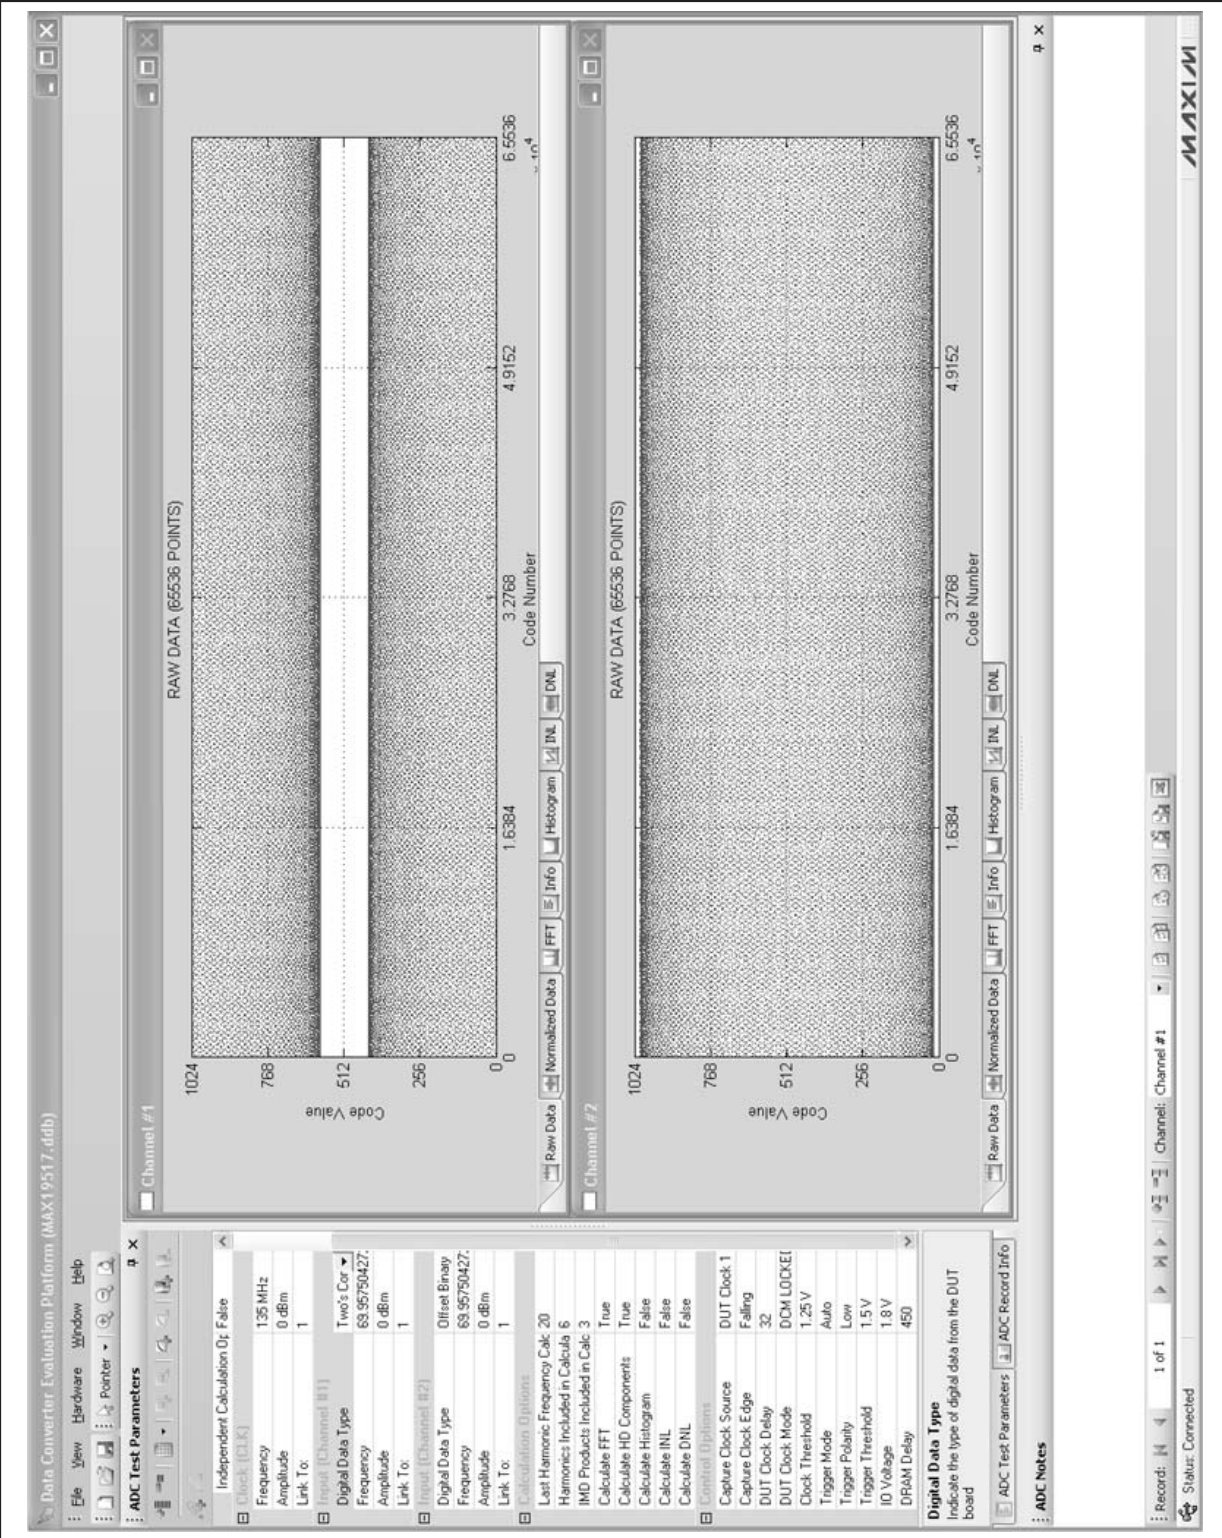
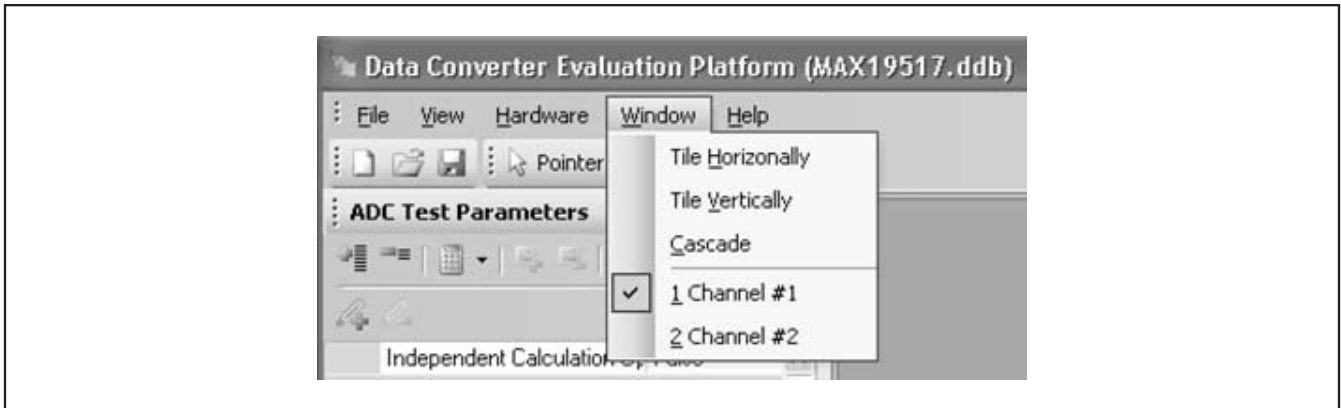
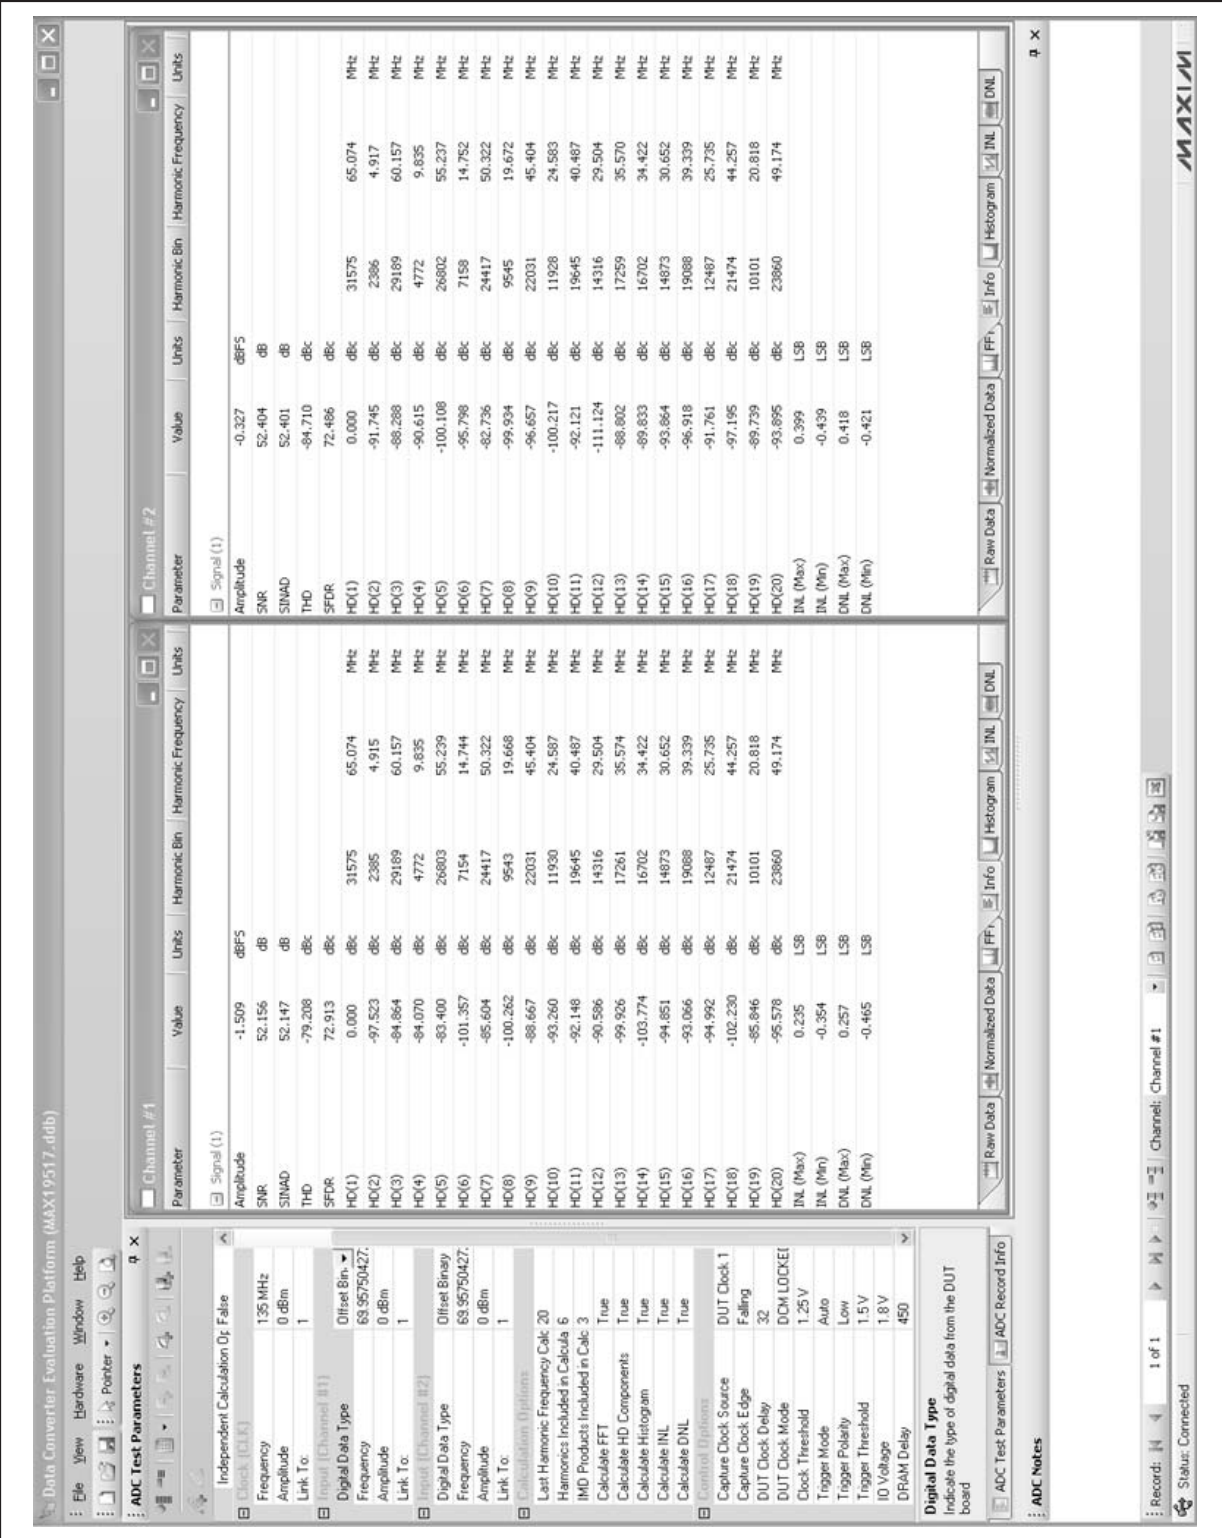

Figure 17. Data Plotted as Captured
Figure 22. Window Menu Options
Figure 23. Data Windows Tiled Vertically
The final category in this window is **Graph Options**. The user can choose to label the FFT plot with any number of harmonics. A value of 1 in the **Number of Harmonics To Label** box labels only the fundamental. Since low-level harmonics are not usually of interest, the user can adjust the **Harmonic Level Threshold** for labeling. The value entered here is in dBFS (dB relative to the full-scale range of the ADC). Any harmonic below this level is not labeled. Finally, when using coherent sampling, the data can be viewed as a single cycle. The **Unscramble Raw Code** option, when **True**, causes the time stream data to be resequenced into a phase-ordered dataset. The unscrambled (phase-ordered) view is useful for showing timing glitches in the data-capture interface. Examples of unscrambling are shown in Figures 17 and 18.
**Window Menu Options:** The **Window** menu item (Figure 22) provides options that control the display of the channel data windows. The data windows can be tiled horizontally (Figures 17 and 18) or vertically (Figure 23). The active data channel can be selected here or by selecting the desired channel data window.